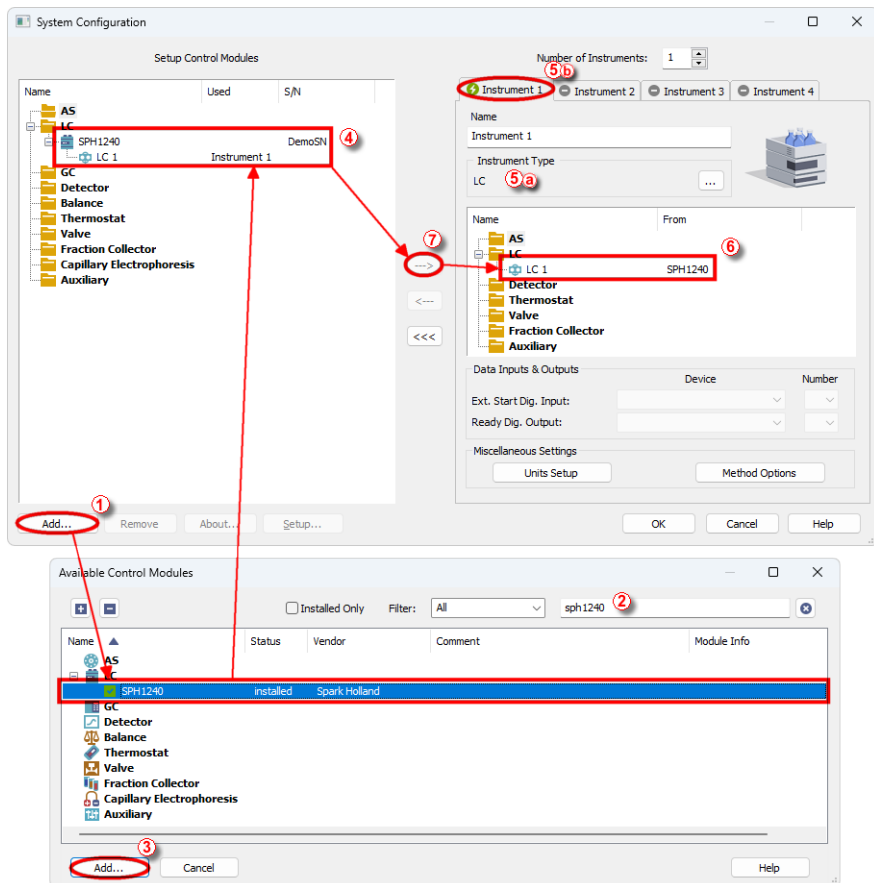

Fig. 2: System Configuration
- Press the *Add* button ① (see **Fig. 2** on pg. 5.) to invoke the *Available Control Modules* dialog.
- You can specify the searching filter ② to simplify the finding of the driver.
- Select the **SPH1240** pump and press the *Add* ③ button.